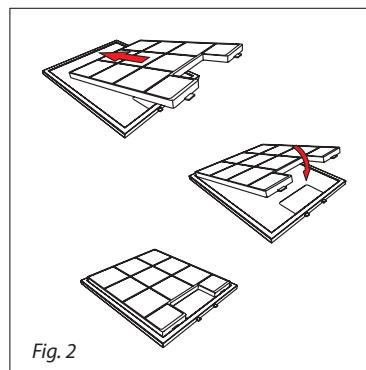

Fig. 2
- Place the carbon filters in the metal grease filters (see Figure 2) and place them back.